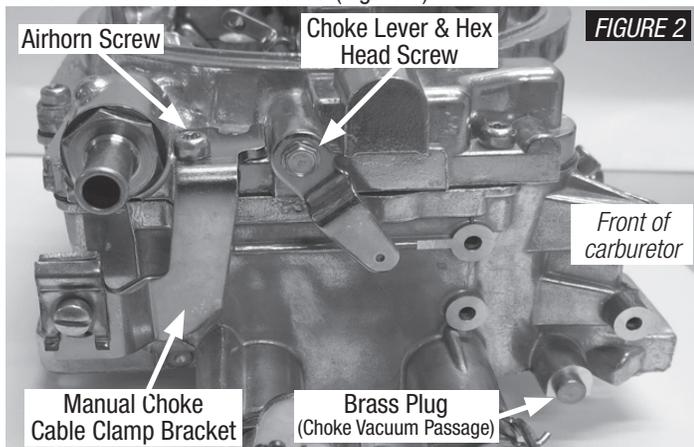

FIGURE 2
2. Remove the manual choke cable clamp bracket by removing the airhorn screw. Reinstall the airhorn screw after the manual choke cable bracket has been removed (Figure 2).
9. Using pliers, remove the brass plug (Figure 2) from the choke vacuum passage. Use compressed air to clean out any debris in the passage to ensure it is not blocked.